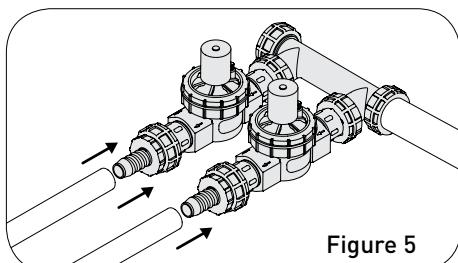

Figure 5
- For  $\frac{3}{4}$ " or 1" Poly Pipe, use Poly Adapter (included in 91207/91206) and secure with tubing clamp (Figure 5)